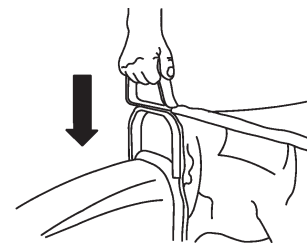

**Figure 40**
15. Close the rear of the bag by folding the sides in and pressing the interlocking rear handle halves together (Fig. 40).